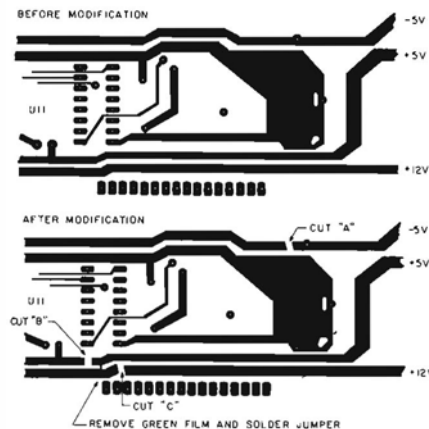

Fig. 3. Foil Side of PC Board
- Turn the PC board over so that you are looking at the foil side. Referring to Fig. 3, cut the following lands: the -5-volt land at label A, the +5-volt land at label B, and the +12-volt land at label C. Make the cuts cleanly and about 1/16-inch wide. Use a high-quality cutting tool. We used an X-Acto knife with a #11 blade.